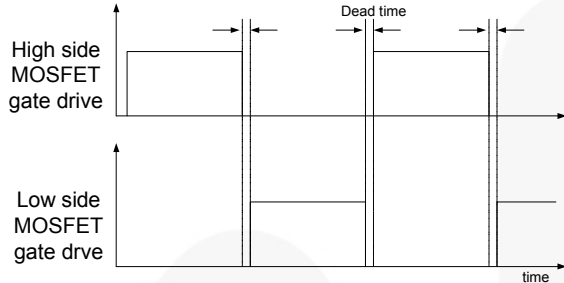

Figure 16. MOSFETs Gate Drive Signal
**1 Basic Operation:** FSFR-series is designed to drive high-side and low-side MOSFETs complementarily with 50% duty cycle. A fixed dead time of 350ns is introduced between consecutive transitions, as shown in Figure 16.